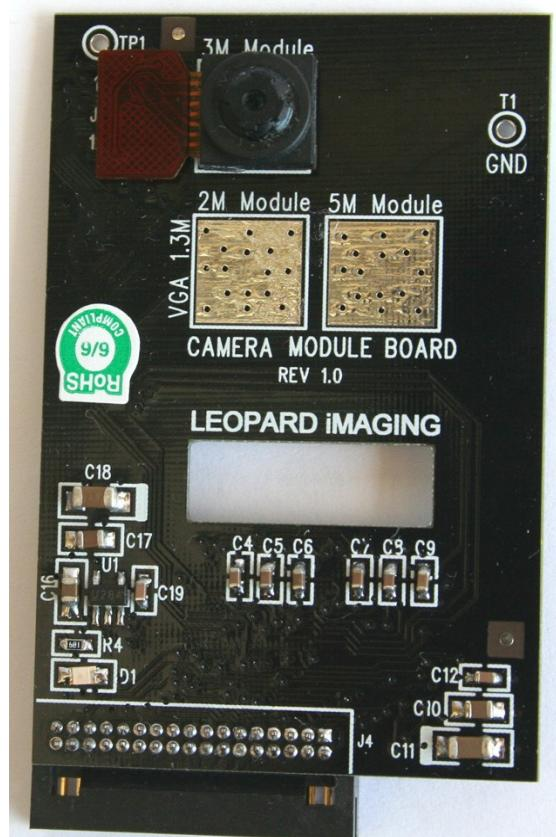

Figure 10. 3M Camera Board
1.2.5.4 3 Mega-pixel Camera Board, see Figure 10